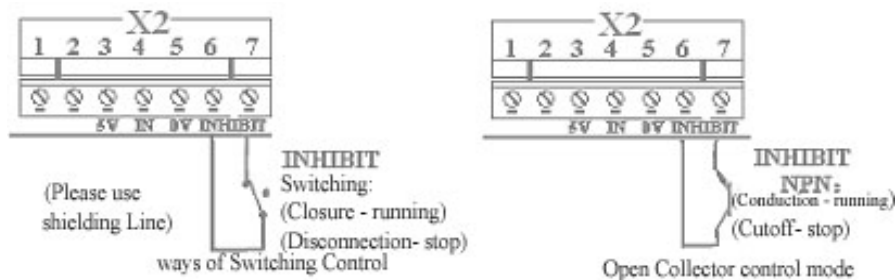

Figure 5
3. External enabling circuit block (INHIBIT): see figure 5